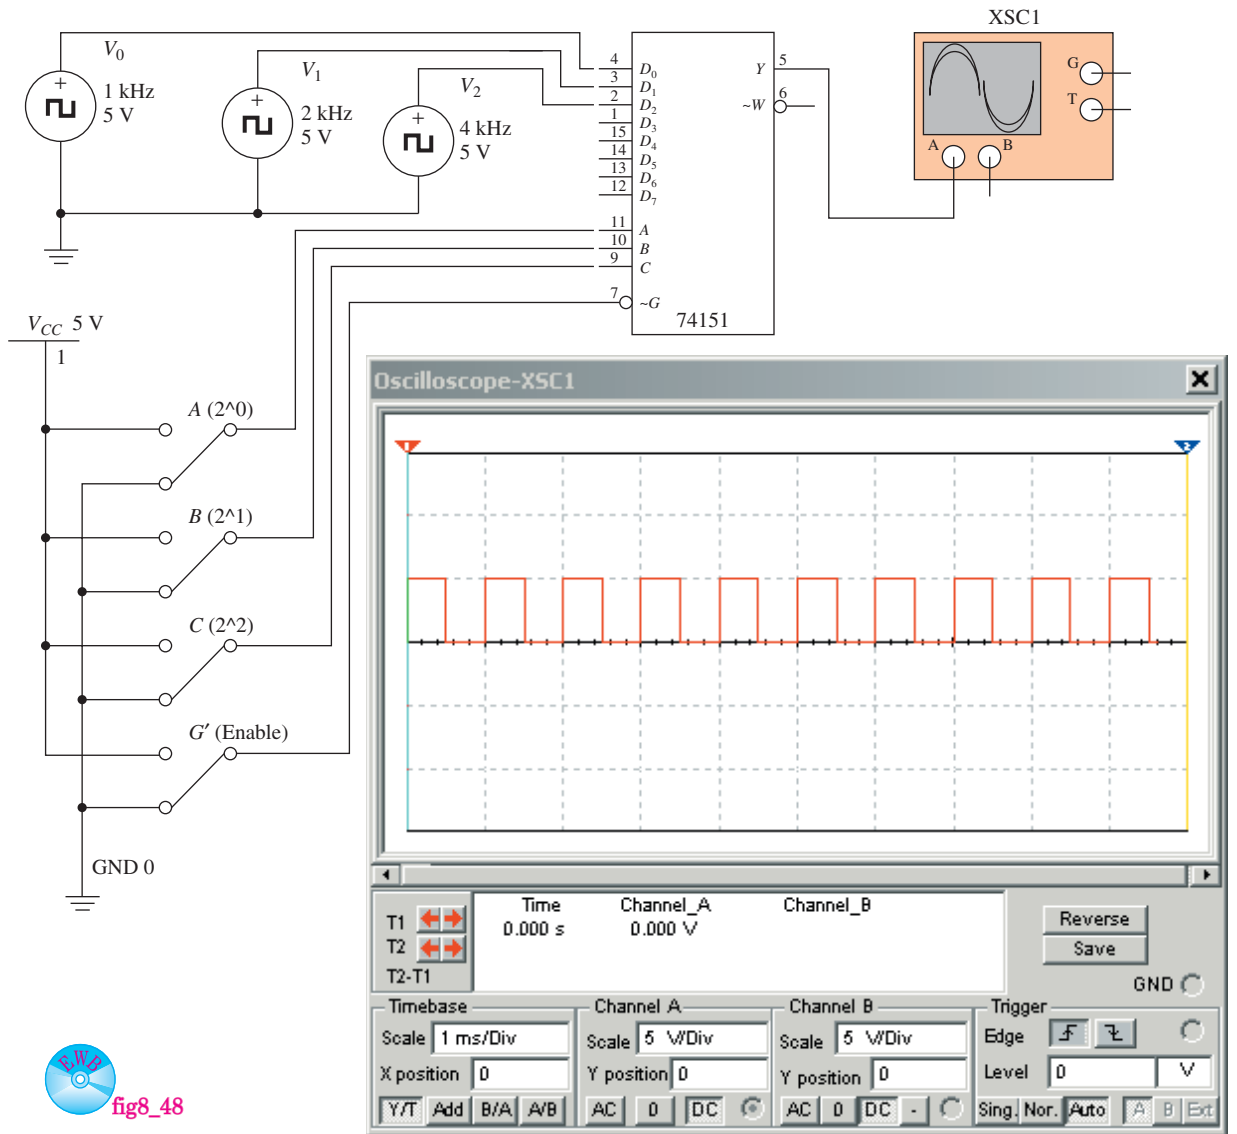

Figure 8–48 Simulation of the 74151 multiplexer routing three signals to an oscilloscope.
MultiSIM[®] exercise: Use MultiSIM[®] to open the file *fig8_48* from the textbook companion website.
- (a) Double-click the oscilloscope to expand its size and then turn on the power simulation switch to perform the simulation shown in Figure 8–48.
Solution: The multiplexer is shown in Figure 8–49. Because there are 16 data input lines, we must use four data select inputs ($2^4 = 16$). (*A* is the LSB data select line, and *D* is the MSB.)